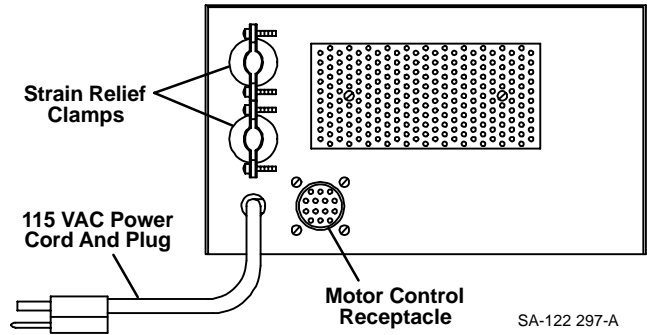

Figure 3-2. Electrical Connections To Carriage Control (Rear View Of Control)
Connect remaining end of Motor Interconnecting Cord to Carriage Control as follows: align keyways, insert 14-pin plug from cord into 14-pin Motor Control receptacle on rear of Carriage Control (see Figure 3-2), and rotate threaded collar fully clockwise.
B. Connection Of Power Cord (Figure 3-2)